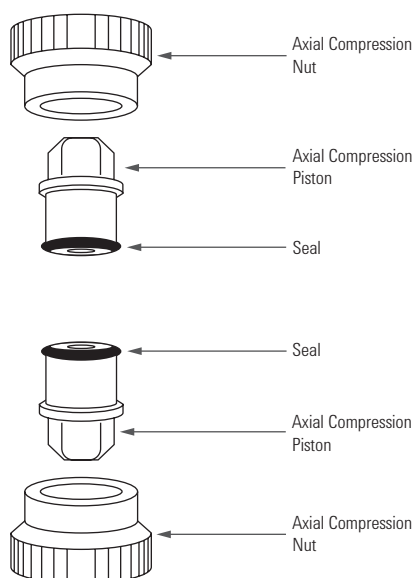

Figure 2. Components of End-fittings Kit No. 1.
3.2. Remove the end-fittings kit from its shipping container. Check that you have received two axial compression nuts and two complete axial compression pistons. (See Figure 2). You should also have two 10-32 bushings and two ferrules. In case replacements are required in future, these are Rheodyne extra-long bushings and Parker-type ferrules. For 10 mm id Dynamax columns, only the Rheodyne extra-long bushing may be used.